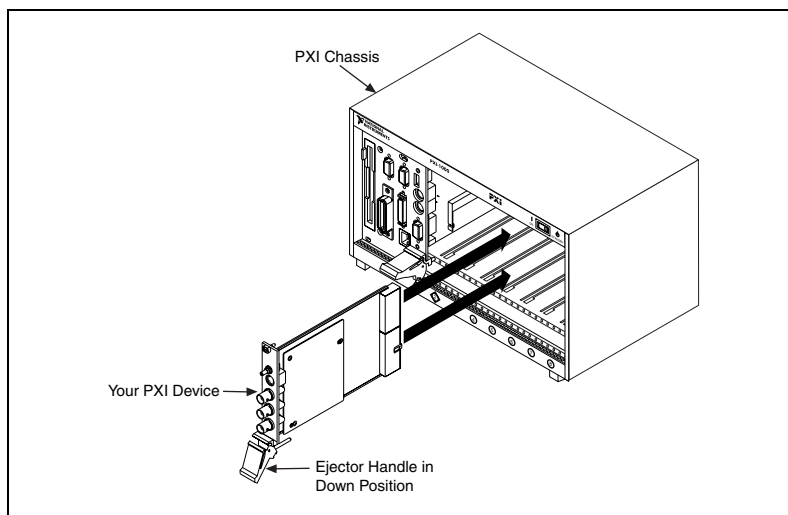

Figure 1-1. PXI Installation
4. Install your digitizer as shown in Figure 1-1.